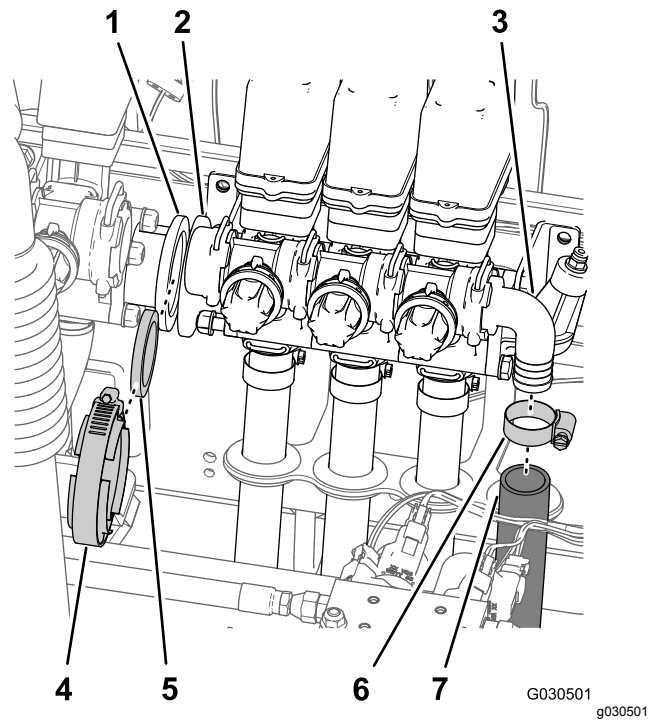

Figure 64
6. Remove the hose clamp that secures the hose (1 inch inside diameter) to the barbed-elbow fitting and remove the hose from the fitting (Figure 64).
7. Remove the flange clamp and gasket that secure the flange adapter on the agitation valve and the flange adapter on the left boom-section valve (Figure 64).